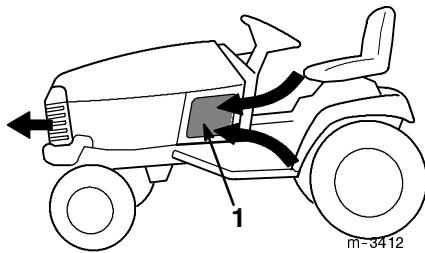

Figure 8
- Check for debris on the air-intake screens (Fig. 8).